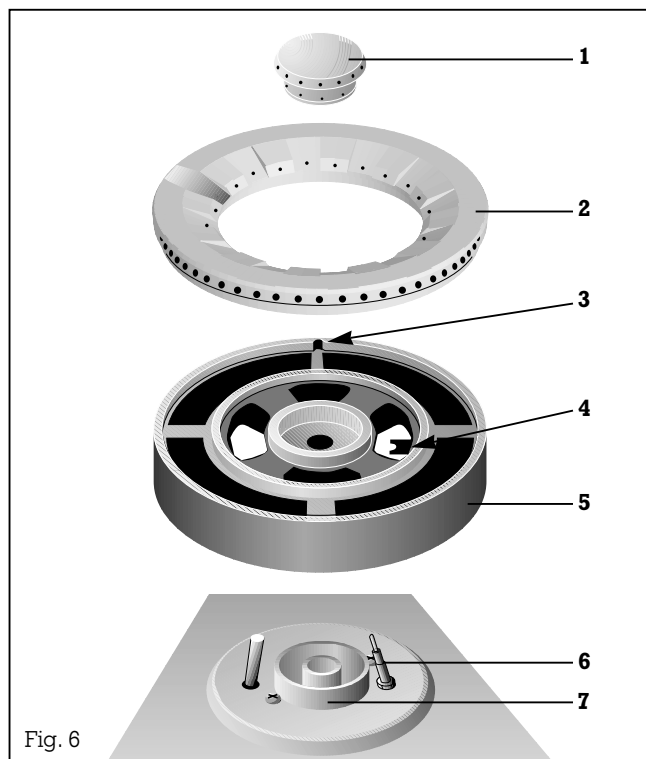

Fig. 6
When assembling the appliance (Fig. 6), make sure that the burner head (5) is placed on the burner base (7) in such a way that the twist protector (4) is held in place by the thermal element (6). Place the burner ring (2) on the burner head (5) from above. The locking lug on the underside of the burner ring must fit in the recess (3). Place the burner cover (1) in the centre of the burner head. Fit the pot support.